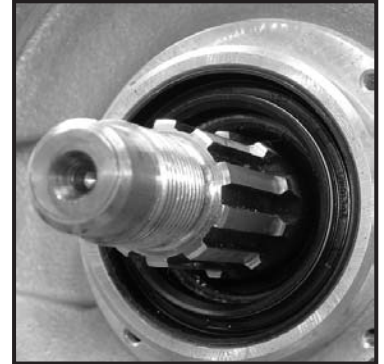

Fig.14- Inspect
- Inspect the engine sprocket shaft, seal and bearing cavities for any packaging debris before continuing. **See Fig. 14**